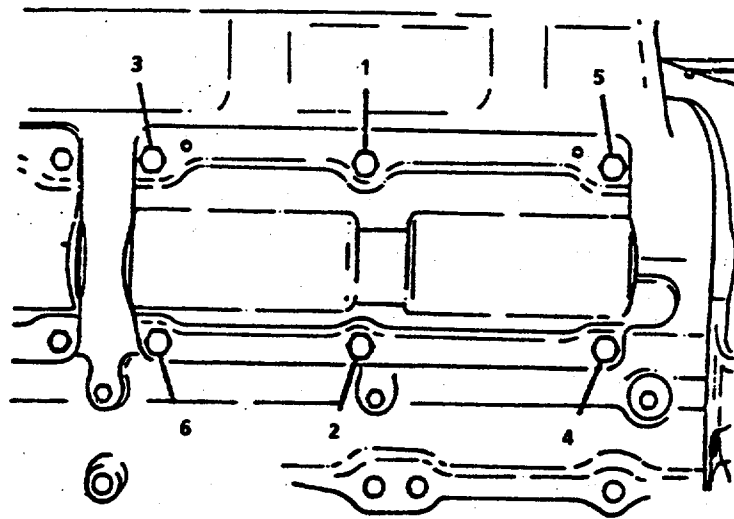

Figure 3-34. Cam Follower Housing Torque Sequence.
- c. Install the cam follower (20) in the block as follows:
- (1) Install six capscrews (17) in each cam follower housing.
- (2) Tighten the capscrews in the alternating sequence shown to the following torque values (FIGURE 3-34).